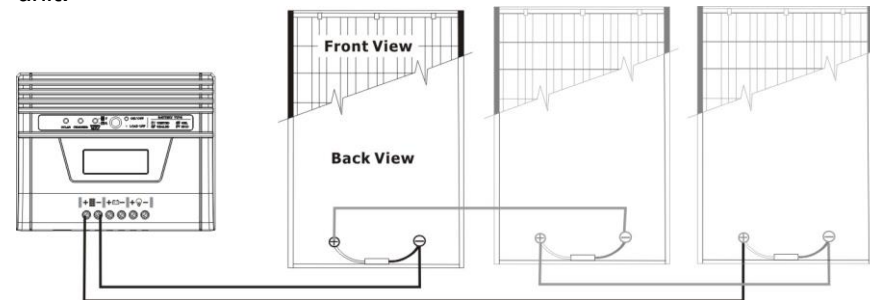

Fig. 8
2) Multiple solar modules in series connection (Refer to Fig. 8): All modules must be equal in voltage and amp hour capacity. The sum of their voltages must not exceed the maximum solar module open circuit voltage. And, the sum of their solar power must not exceed the maximum capacity of the unit.